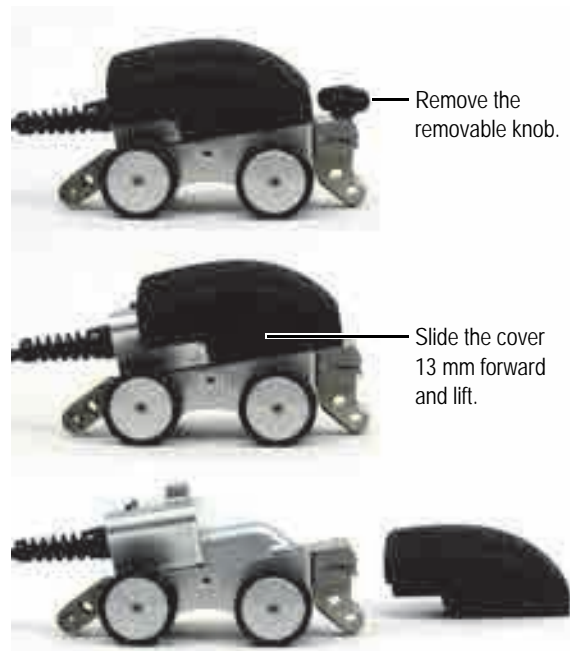

Figure 2-3 Removing the ergonomic cover
1. Pull out the removable knob if required (see Figure 2-3 on page 24).